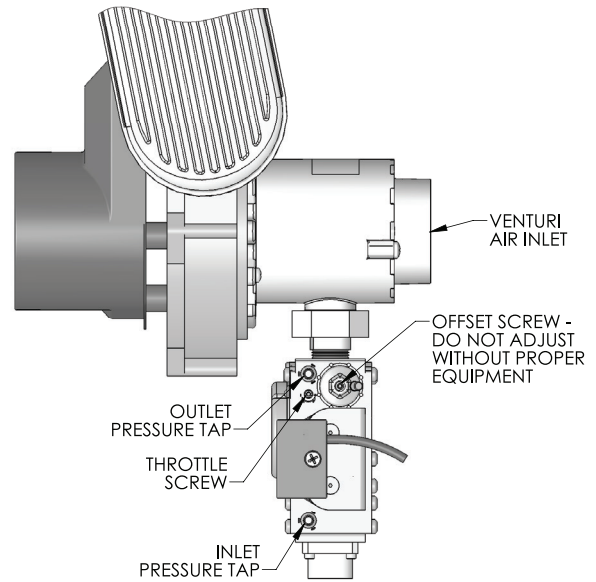

Figure 5.2: Peak-40 Gas Valve and Venturi Detail
2. Table 5.3 shows the maximum and minimum fuel gas supply pressure to be measured at the gas valve inlet pressure tap. See figure 5.2.
- c. Using a flat screwdriver, turn the screw inside the inlet tap fitting (see Figure 5.2) one turn counter clockwise.
1. Figure 5.2 is an illustration of the gas valve/venturi assembly for the Peak boiler.
- a. Adjustments should not be made to the gas valve without instrumentation to measure carbon dioxide (CO₂) and carbon monoxide (CO) emissions in the vent pipe.